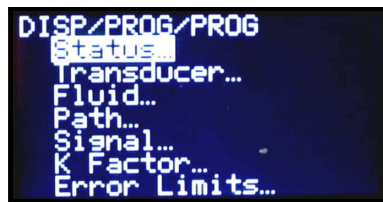

Figure 34: The PROG Menu
3. Use the [p] and [q] keys to scroll to the desired channel and press **[ENT]**. The screen appears similar to Figure 34 below.